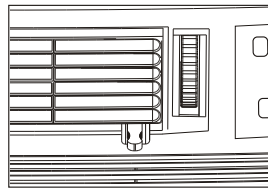

Figure 2 (VENT OPEN)
2. Draw fresh air into the room - Vent Open (See Fig.2)